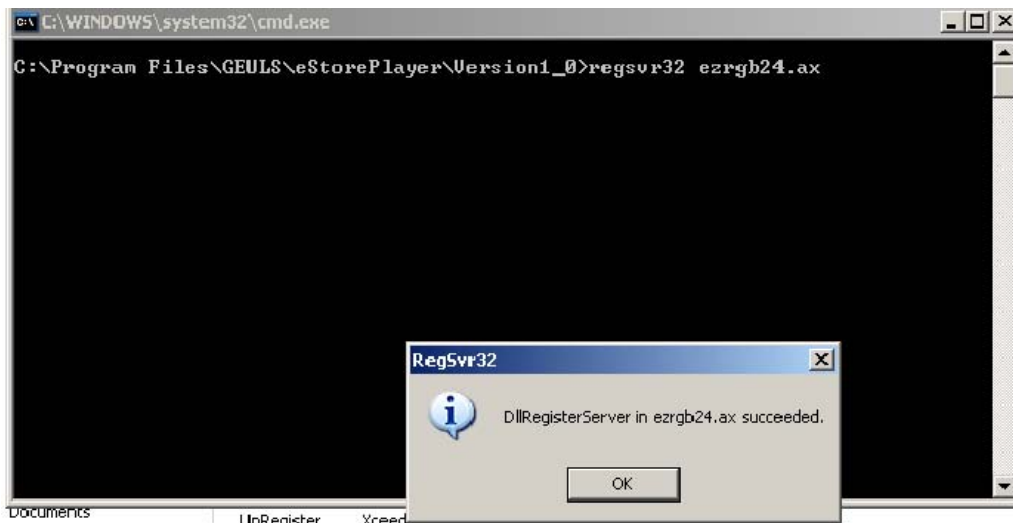
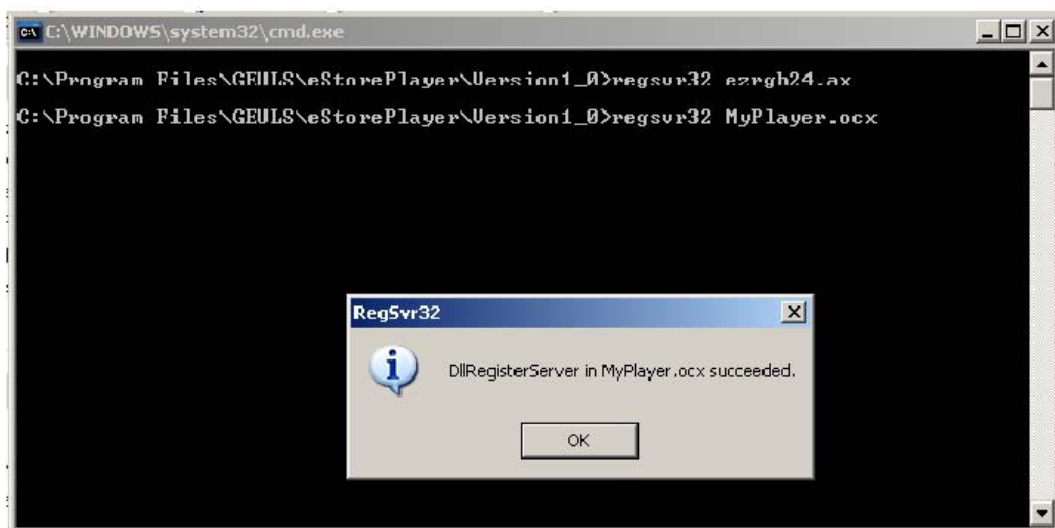

Figure 3-113 Uninstall Message 1
Figure 3-114 Uninstall Message 2
- 4.) If two messages are displayed one after another (shown in Figure 3-113 and Figure 3-114), click the **OK** button on each of them to close the message.